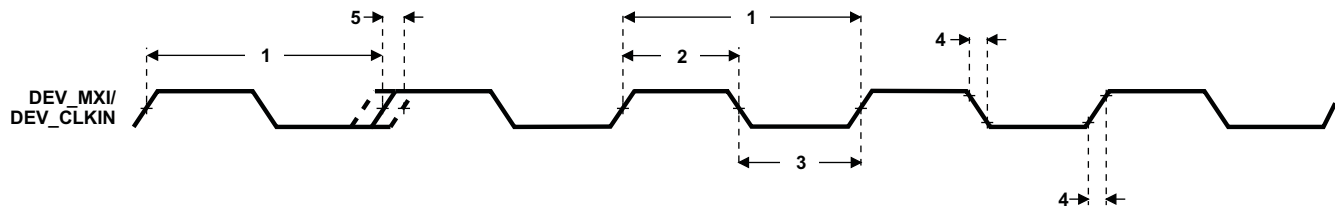

Figure 7-16. DEV\_MXI/DEV\_CLKIN Timing
Table 7-13. Timing Requirements for DEV\_MXI/DEV\_CLKIN(1) (2) (3) (4) (see Figure 7-16)